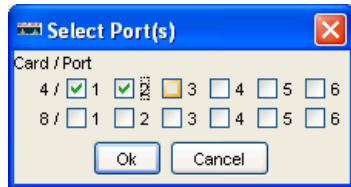

Figure 7-17 Selecting members in a trunk group
- Click **Insert**, select a trunk port number to assign (trunk group 1 in this example) and give it a name (TG1 in this example), then click the option to select port members and select the port member numbers (4/1 and 4/2 in this example). See Figure 7-17.